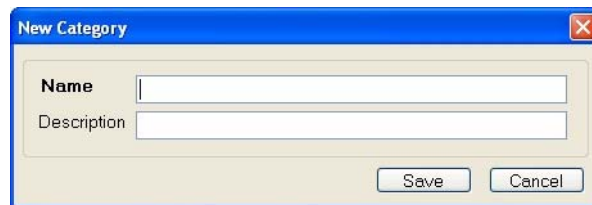

Figure 9-17 New Category Dialog
1. In the Category Registration dialog, select a category and click **Edit**. The Category Edit dialog appears (Figure 9-17).